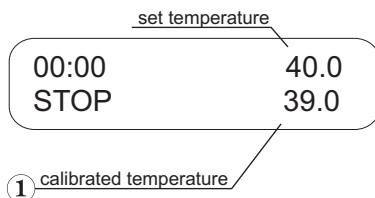

Fig. 4 Control panel in operation mode after calibration
- 5.4.8. The display will show calibrated temperature as shown on fig. 4/1 and the unit will continue thermal stabilization according to the previously set temperature.